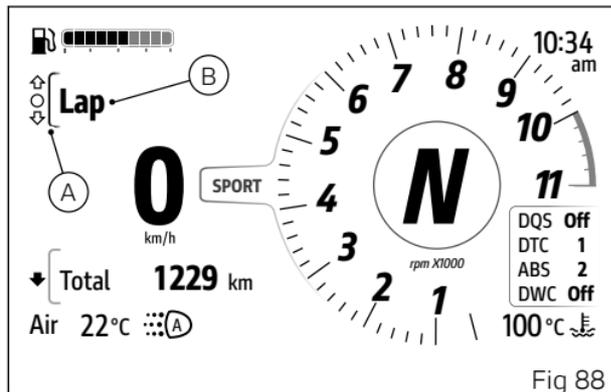

Fig 88
- Select the Interactive Menu (A, Fig 88) by pressing and holding button (1) pressed for a long time.
- Use buttons (1) and (2) to select item "Lap" (B, Fig 88) and press the ENTER button (3).